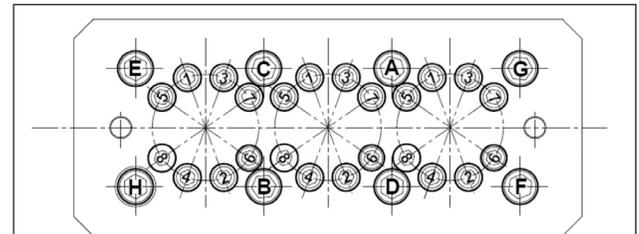

Fig. 54
- ** The head fixing screws (exploded position 57) must be tightened with a torque wrench respecting the sequence shown in the diagram in fig. 54.
- *** The liner fixing screws (exploded position 56) must be tightened in a single phase, respecting the sequence shown in the diagram in fig. 54.